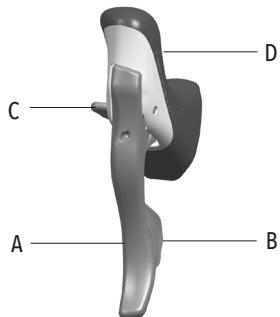

Fig.1
- Brake lever hood (D - Fig.1)
- Moving the lever A (Fig. 1) operates the brake: check which wheel corresponds to which lever by operating each of these one at a time.